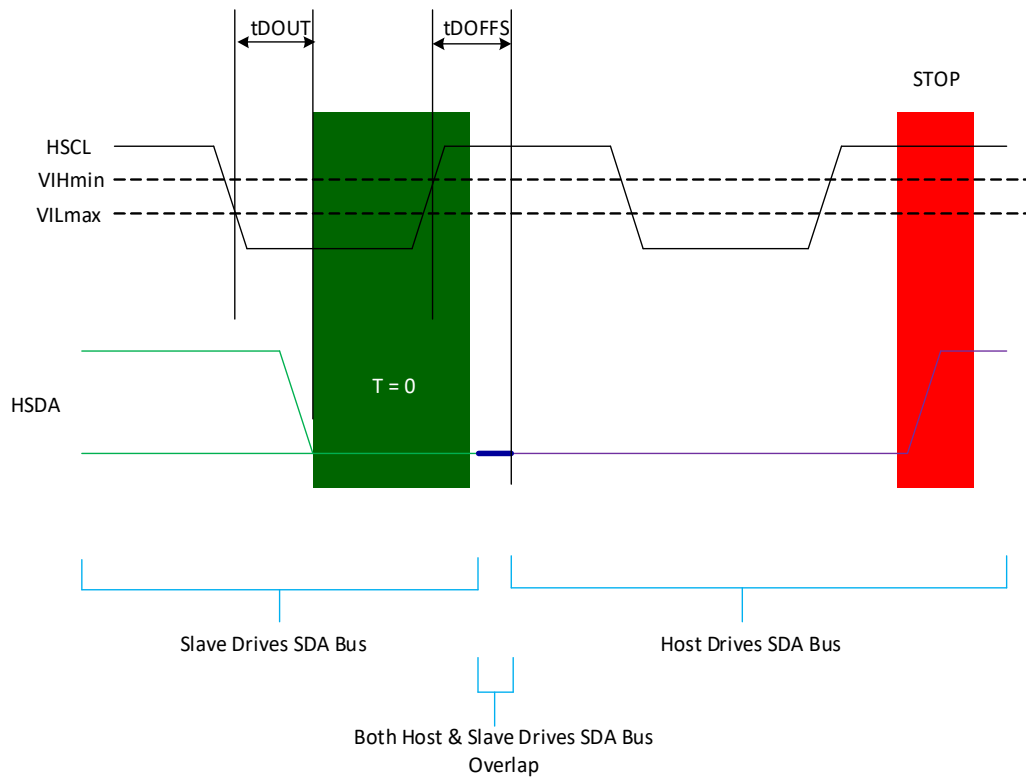

Figure 6 — $T=0$; Slave Ends Read; Host Generates STOP
6. See Figure 6 to see how slave device ends the operation followed by Host STOP operation.
8. When last byte (i.e MR255) is reached (extreme rare case), the slave device sends T = '0'. See Figure 6 to see how slave device ends the operation followed by Host STOP operation.
7. See Figure 6 to see how slave device ends the operation followed by Host STOP operation.
3. When last byte (i.e MR255) is reached (extreme rare case), the slave device sends T = '0'. See Figure 6 to see how slave device ends the operation followed by Host STOP operation.
2. See Figure 6 to see how slave device ends the operation followed by STOP operation
5. When last byte (i.e MR255) is reached (extreme rare case), the slave device sends T = '0'. See Figure 6 to see how slave device ends the operation followed by Host STOP operation.
4. See Figure 6 to see how slave device ends the operation followed by STOP operation
2. See Figure 6 to see how slave device ends the operation followed by Host STOP operation.